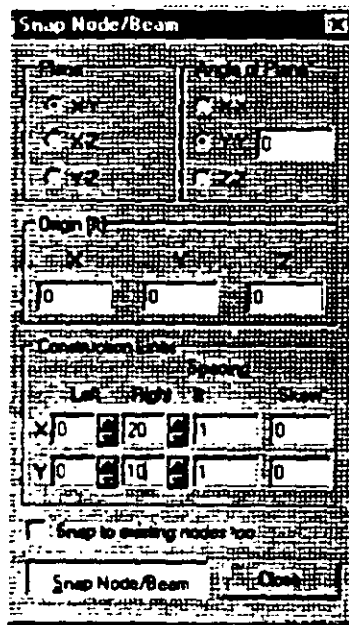

Figure 5.9
7. Select *Geometry / Beam* Page from the left side of the screen. In the *Snap Node/Beam* dialog box that appears in the Data Area (on the right side of the screen), choose *X-Y* as the *Plane* and in the *Construction Lines* group, set *X* to *20* and *Y* to *10* with a spacing of *1ft.* (see Figure 5.9) This 20X10 grid too is only a starting grid setting to enable us to start drawing the structure, it does not restrict our model to those limits as we will see later.